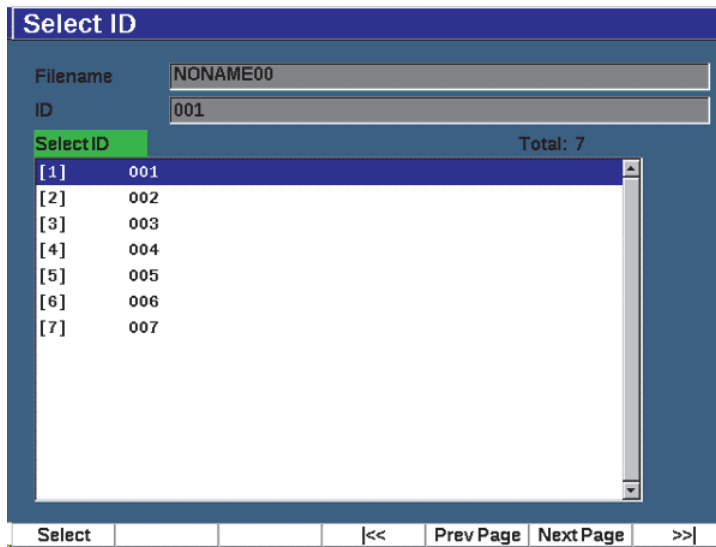

Figure 10-17 The Select ID menu
- ◆ Choose **File > Select ID** elect from a list of all the available IDs in the currently open file (see Figure 10-17 on page 220).